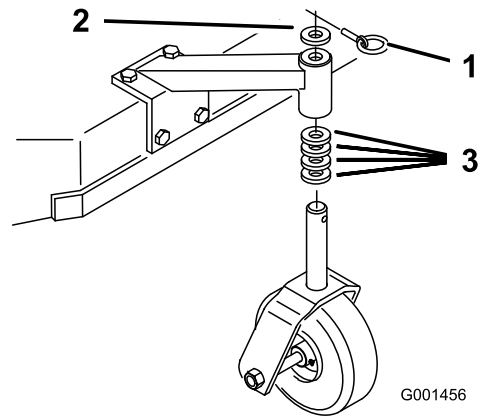

Figure 14
1. Using the Height-of-Cut Chart, adjust the caster spacers to match with the axle hole selected (Figure 14).
2. Remove the latch pin, slide the caster from the support, and change the spacers (Figure 14).
3. Install the caster in the support and insert the latch pin (Figure 14).